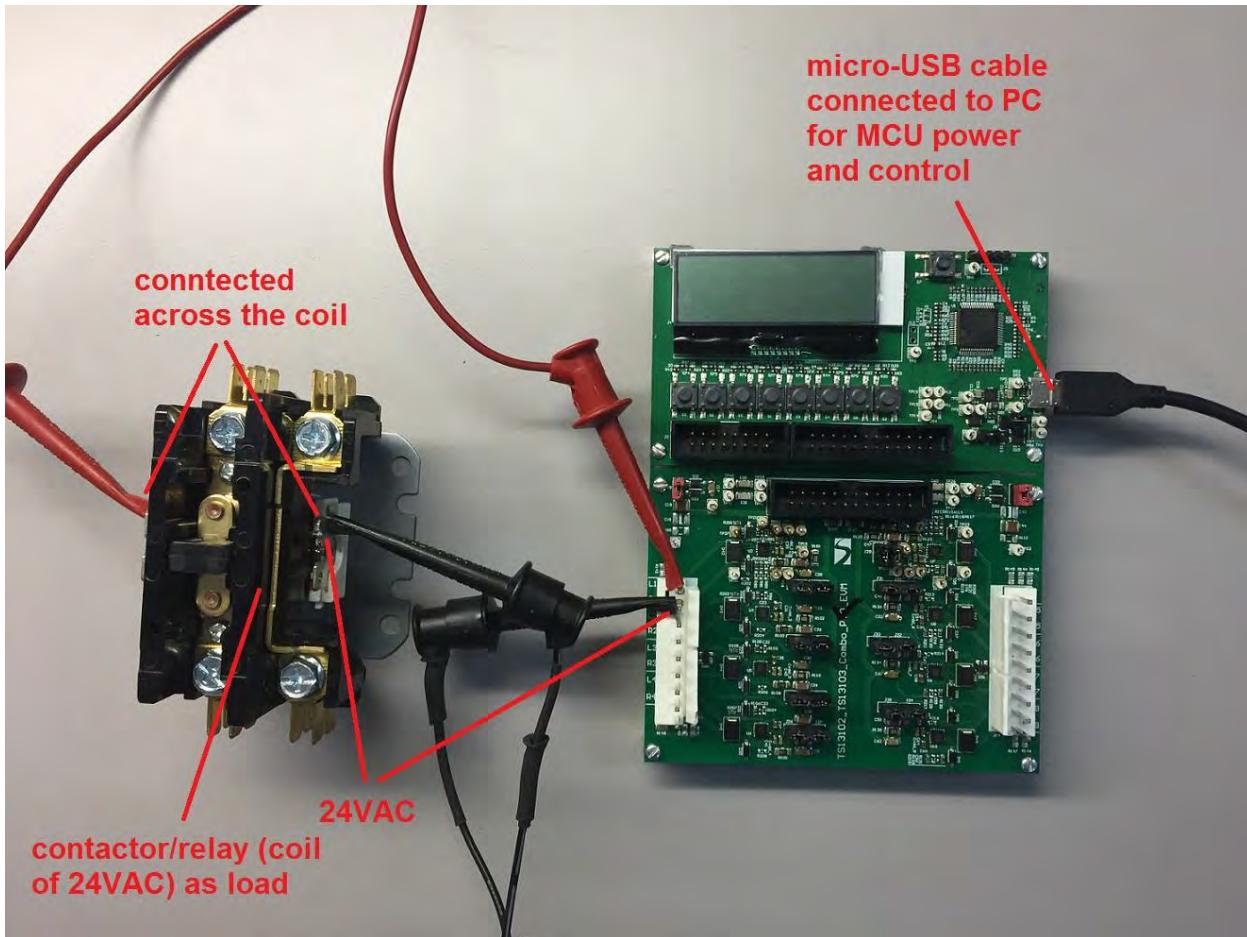

Figure 7 “TS13102/13013 Combo PTO EVM” hook up with single channel
For single channel, hook up the 24Vac power source, the contactor as load and “TS13102/13013 Combo PTO EVM” as Figure 7. Connect the EVB with PC with micro-USB cable.
- 1) Hook up the EVM as Figure 7 or 8